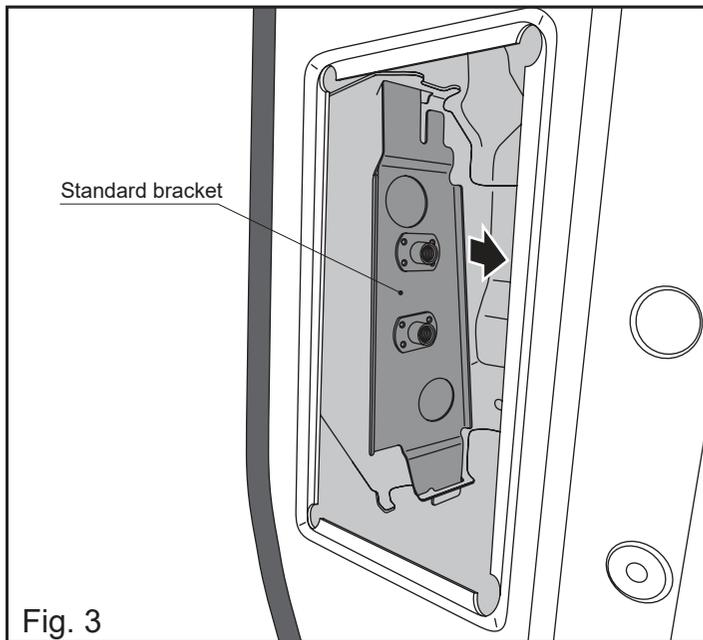

Fig. 3
4. Remove the standard bracket (Fig. 3).